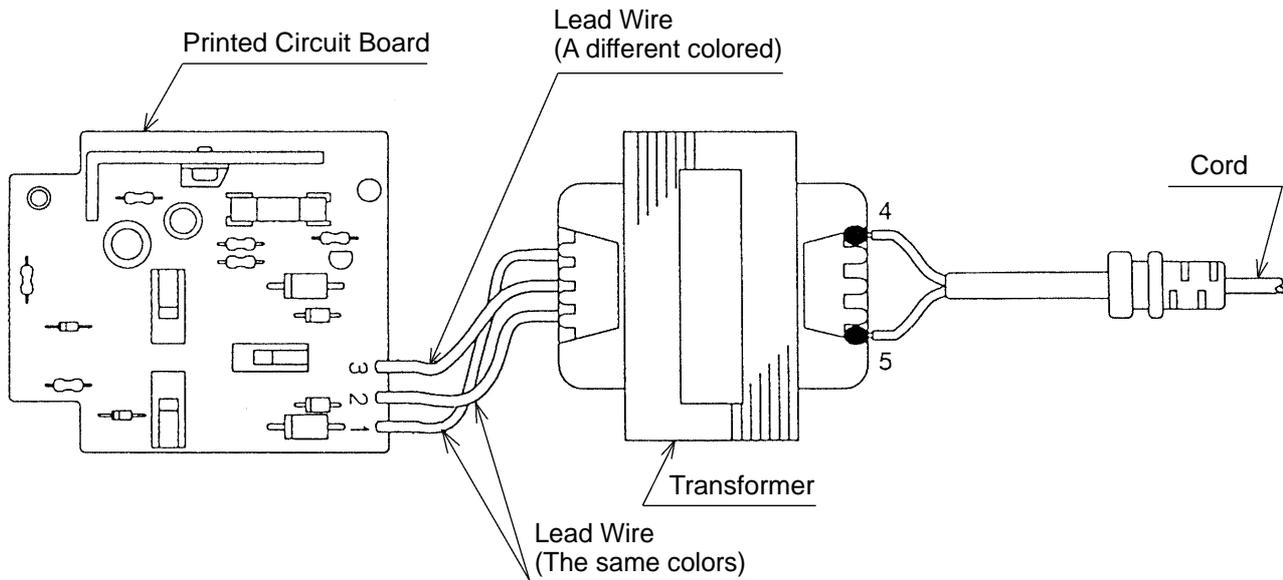

Fig. 3
- (1) Remove the four Screws (Plastic Tie) D4 x 20 **[5]**, and take off Case (B).
- (2) When the Transformer **[9]** is lifted upward, the Printed Circuit Board **[4]**, Cord **[10]** and * Noise Suppressor (only for 240 V) can be removed together.
- (3) To separate the Printed Circuit Board **[4]**, Transformer **[9]**, Cord **[10]** and * Noise Suppressor (only for 240 V), melt their soldered connections with a soldering iron at the points marked 1, 2, 3, 4 and 5 in Fig. 3. As excessive heat may damage the material of the Printed Circuit Board, use of the soldering iron should be limited to less than three seconds at one time.